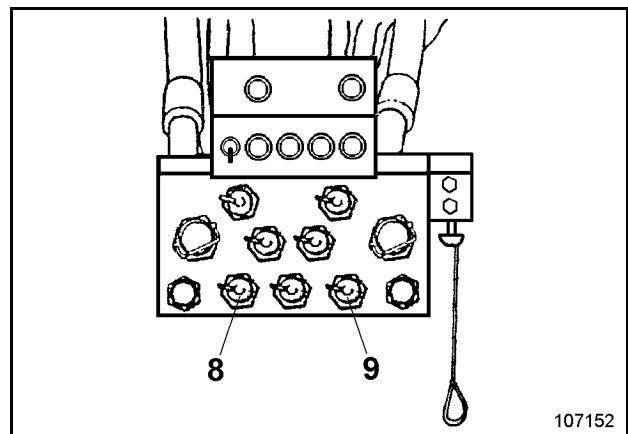

Fig. 3-19:
- express coupling (8, Fig. 3-19:) for the lefthand engine
- express coupling (9) for the righthand engine